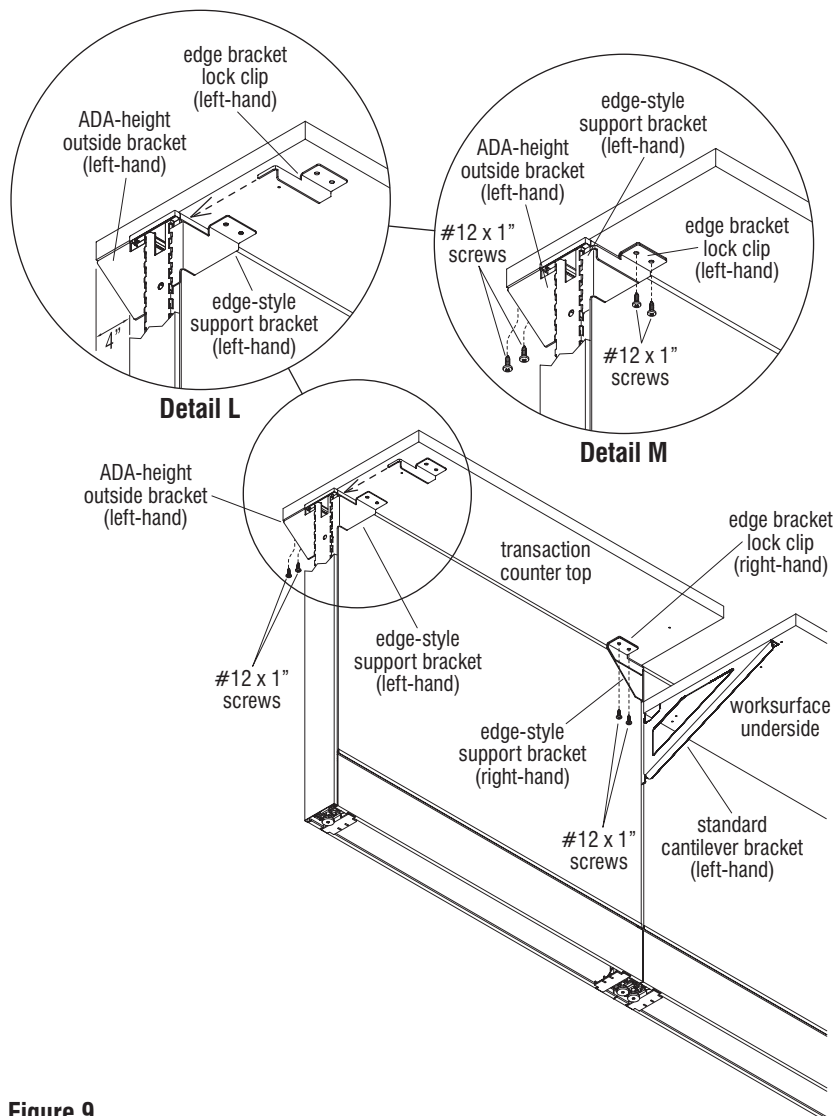

Figure 9
- Position a left-hand lock clip as illustrated (Detail L) and insert the thin prong end of the clip into the top panel notch, just above the top tooth of the left-hand edge-style support bracket. Fully inserted properly, the two mounting holes of the lock clip will align over the two mounting holes in the edge-style bracket. Insert and tighten two #12 x 1" screws to secure the clip over the edge-style support bracket, and into the transaction countertop (Figure 9, Details L & M).
- Repeat step 4 above for the right-hand lock clip to the right-hand edge-style support bracket. Check and assure that all four mounting screws are tight. The transaction countertop should be snug and no movement should be felt (Figure 9, Details L & M).
- Position a left-hand lock clip as illustrated (Detail P) and insert the thin prong end of the clip into the top panel notch, just above the top tooth of the left-hand edge-style support bracket. Fully inserted properly, the two mounting holes of the lock clip will align over the two mounting holes in the edge-style support bracket. Insert and tighten two #12 x 1" screws to secure the clip over the edge-style support bracket, and into the corner transaction countertop (Figure 9, Details L & M).